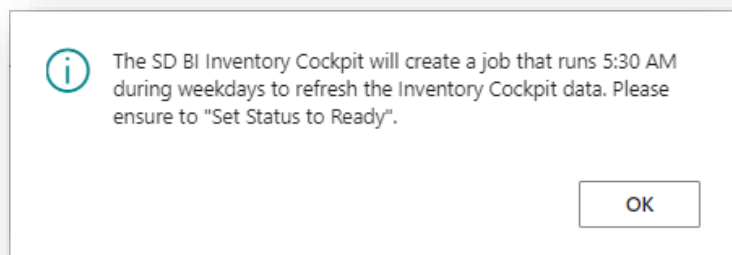

Figure 6-8
- Job Queue Entries** – Choose this action to create a Job to refresh the SD BI Inventory Cockpit data. To avoid processing overheads, this Job is set to run during weekdays at 5 a.m. (Figure 6-8). Alternatively, you can choose the Refresh action button on the SD BI Inventory Cockpit Role Centre during the day to refresh the data.